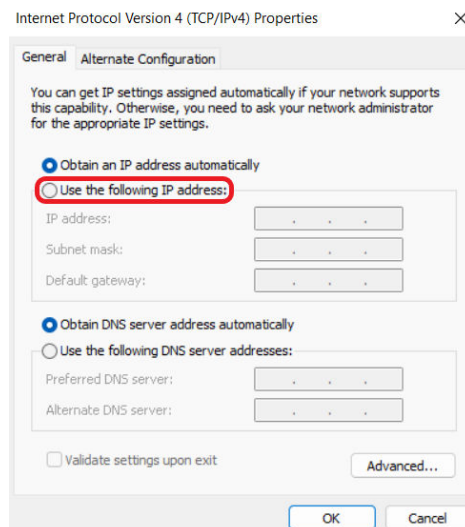

Figure 20: Network Configuration - TCP/IPv4 Properties window
- Once in the 'Internet Protocol Version 4 (TCP/IPv4) Properties' window you will see several fields that are all greyed out and non modifiable. This is since computers by default are set to 'Obtain an IP address automatically' from your router. To change this, please click on 'Use the following IP address' as is highlighted in Figure 20 below. This will enable you to edit all the fields previously greyed out. For HEAT VIEW controllers, the only fields you need to modify are the 'IP address' and the 'Subnet mask' fields.